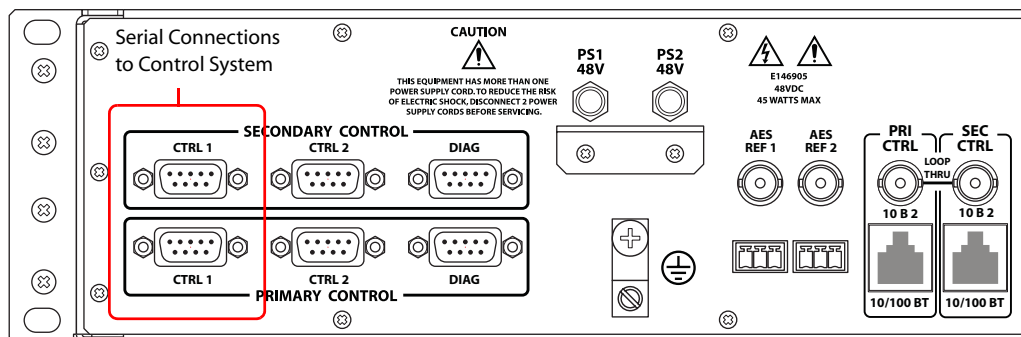

Figure 2-3. Serial Control Connections (Rear View)
- 1 Locate the serial control connections on the rear of the router, as shown in Figure 2-3. Serial control connections are labeled 'PRIMARY CONTROL' for the primary control card and 'SECONDARY CONTROL' for the secondary control card.